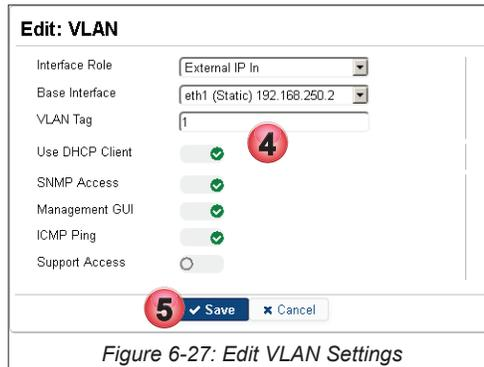

Figure 6-27: Edit VLAN Settings
4. Edit or fill in the VLAN settings form, Figure 6-27, according to Table 6.2a and your system requirements.
Table 6.2a: VLAN Form Settings (See Figure 6-27)